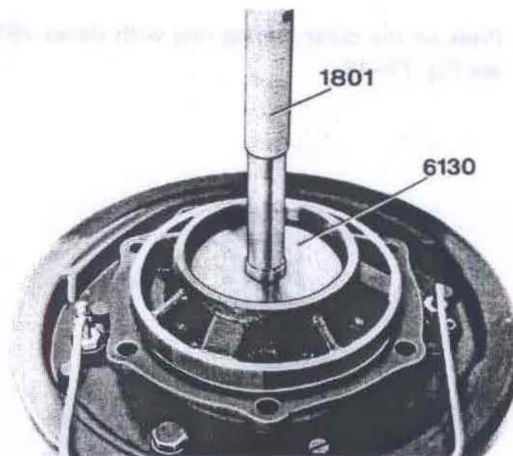
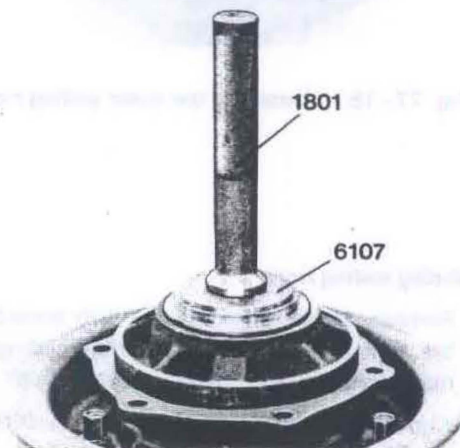

Fig. 77-15. Installing the inner sealing ring
Fig. 77-16. Installing the inner bearing outer ring
9. Tap in the inner sealing ring with drift 6130, see Fig. 77-15. The sealing ring should be 2 mm (5/64") under the outer ring. Press in the inner bearing outer ring with drift 6107 and standard handle 1801, see Fig. 77-16.
7. Tap in the inner sealing ring with drift 6130, Fig. 77-15. The sealing ring should lie 2 mm ($5/64$ "') below the outer ring. Press in the inner bearing outer ring with drift 6107 and standard handle 1801, Fig. 77-16.